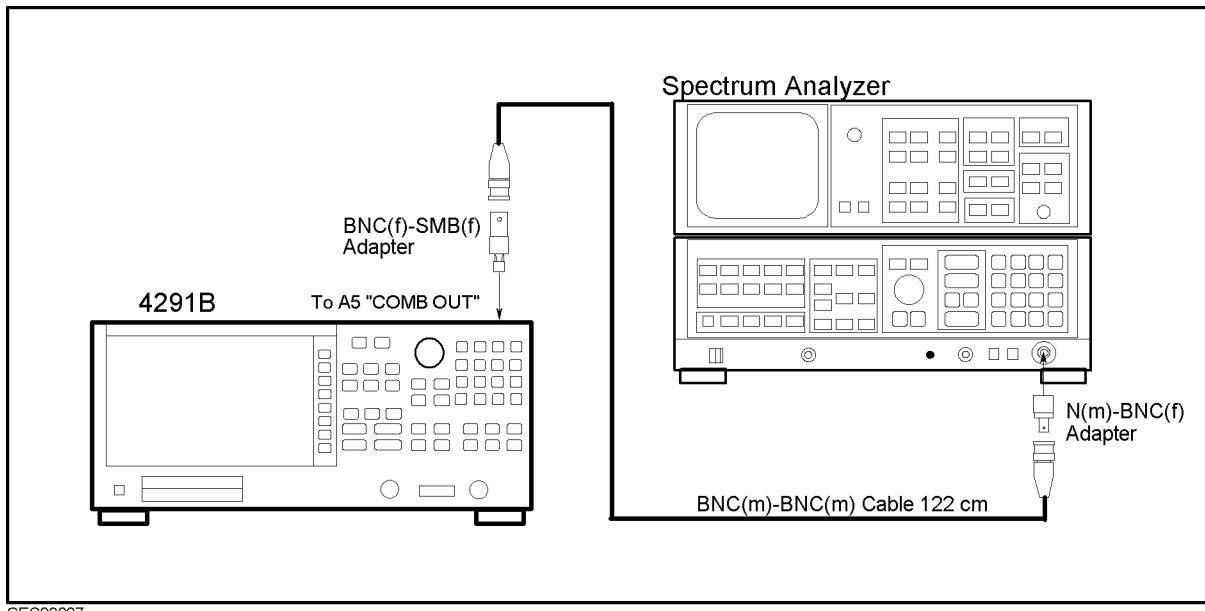
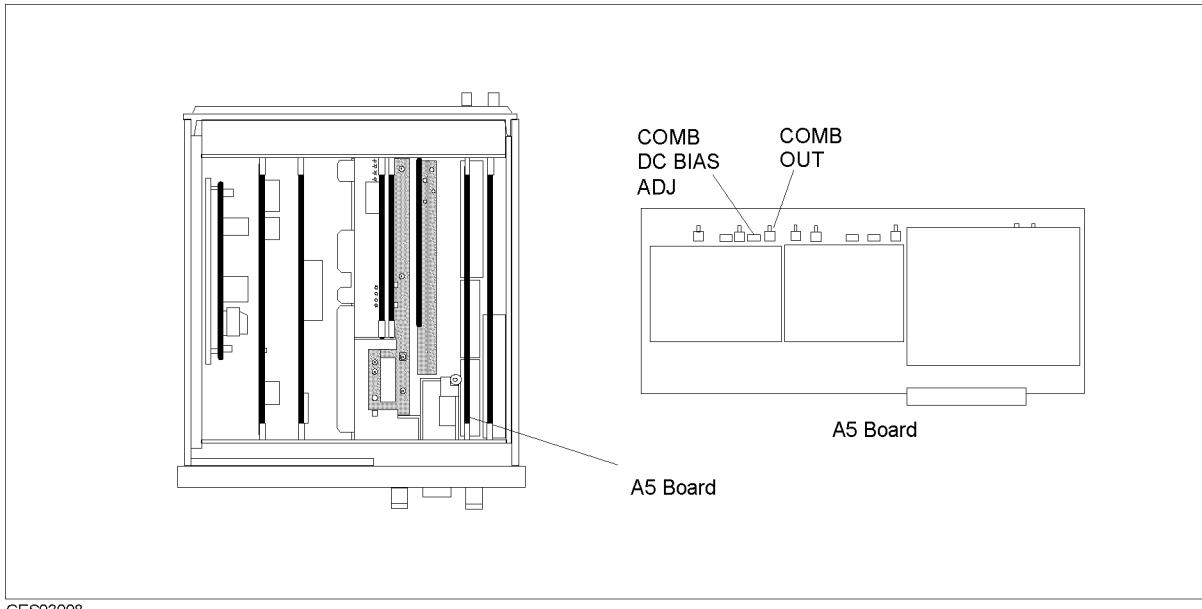
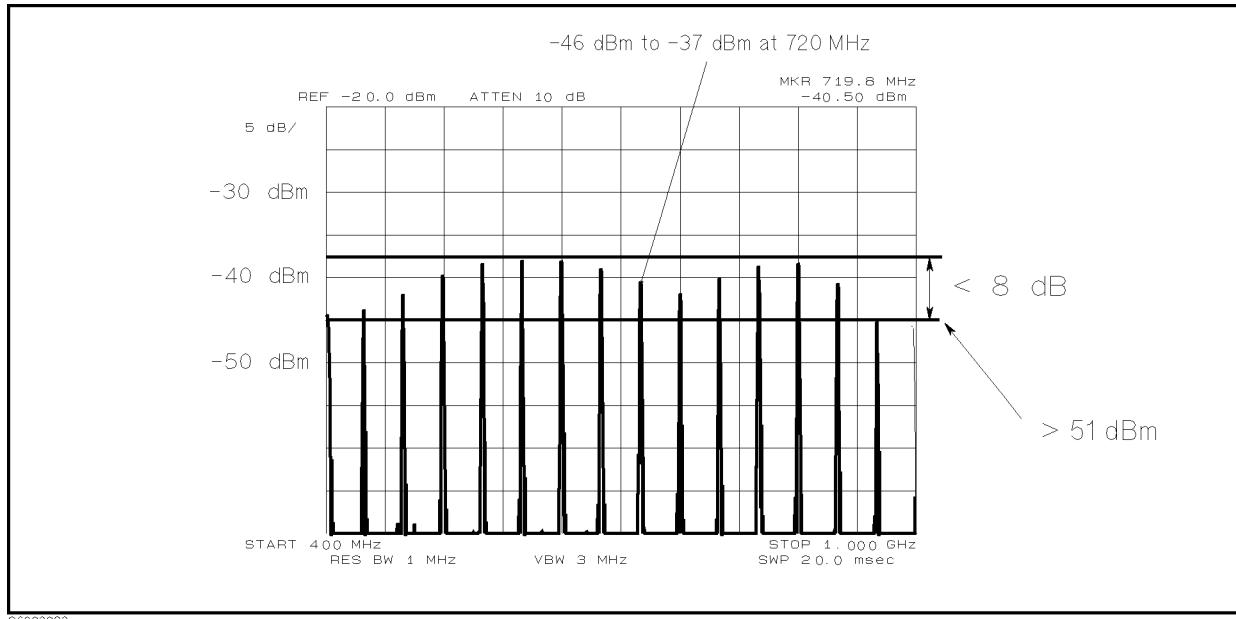

Figure 3-6. Comb Generator Adjustment Setup
Figure 3-7. Comb Generator Adjustment Location
Figure 3-8. Comb Generator Output
2. Remove the SMB connector termination from The A5 "COMB OUT" connector, and connect the equipment as shown in Figure 3-6. The A5 "COMB OUT" connector location is shown in Figure 3-7.
The adjustment location is shown in Figure 3-7. A typical spectrum analyzer display is shown in Figure 3-8.